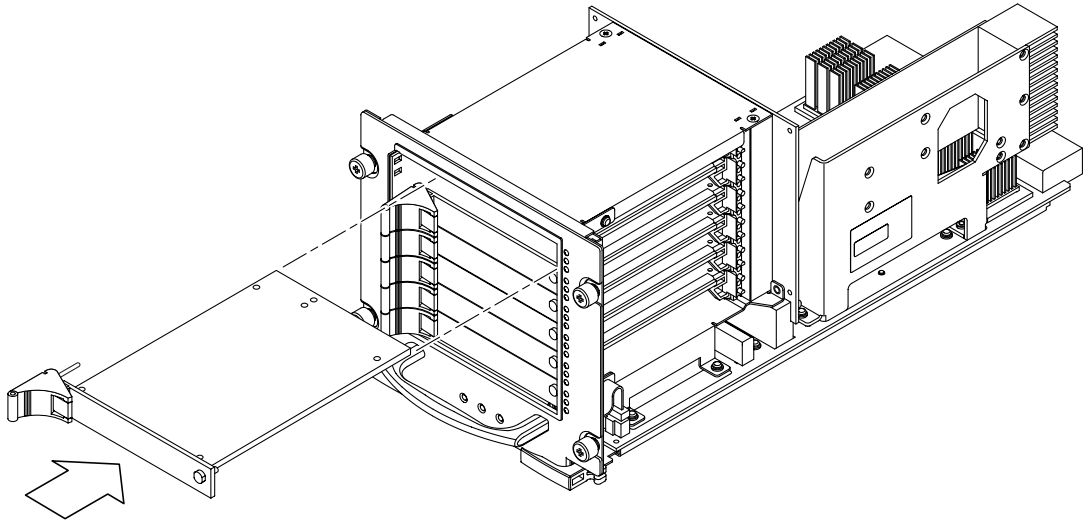

FIGURE 10-7 Replacing a CompactPCI Card
4. **Hold the card by the two side edges or the front panel and slide the card into the slot between the two guides (FIGURE 10-7).**